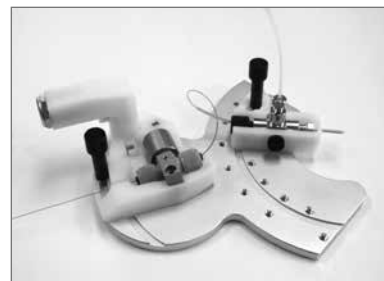

Figure 16A: Uncoated Tip Module showing the MicroTee in its correct orientation
2. Position the UTM onto the magnetic stage plate and insert the MicroTee (Figure 16A)
3. Position the sheath gas tee module in the forward position on the magnetic stage plate and secure the holder with the mounting screw (Figure 16A)